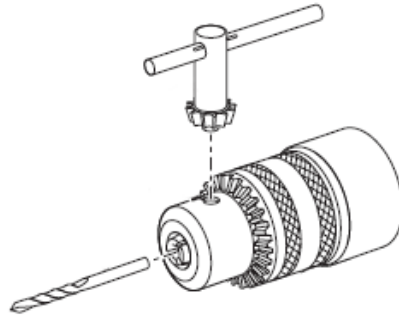

FIGURE 8.1
2. Insert the base of the accessory into the chuck and with the help of the chuck key, tighten equally on the three attachment positions (figure 8.1);